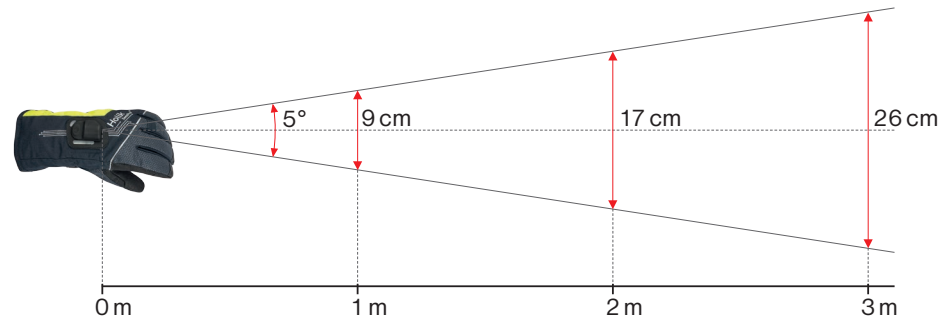

Fig. 3: The relationship between the surface measured by the IR sensor and the distance from which the surface is measured
The IR sensor [infrared sensor] (2) for measuring temperatures of remote objects is located beneath a silicon cover on the back of the glove. The maximum measured temperature range of the IR sensor is -70 °C to +380 °C. The accuracy of the measured temperature of the remote point depends on the distance between the glove and the measured point (Fig. 3 and 4). The measured surface increases as the distance grows, possibly distorting the results. The laser pointer (3) located next to the IR sensor shows the user the measured area of the remote object. The pointer is functional only when using the IR sensor [mode 2].